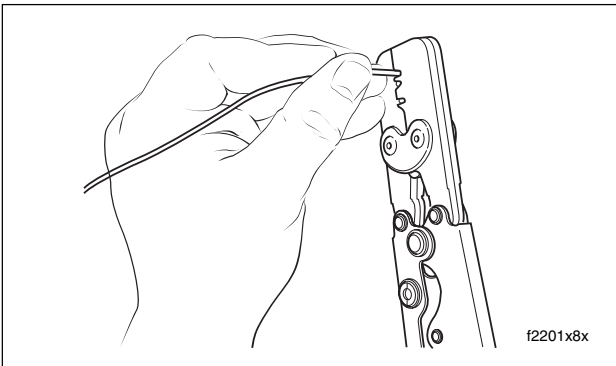

Figure 8-49. Crimp Terminal Onto Wire
9. Squeeze handle of crimp tool until tightly closed. Tool automatically opens when the crimping sequence is complete. See Figure 8-49.